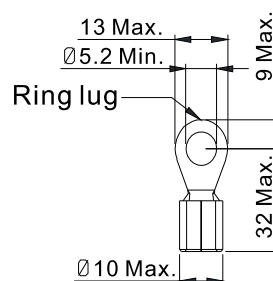

Figure 1
4. Use specified ring lug for terminal wiring. See Figure 1 and Figure 2 for ring lug specifications. For other types of wiring, use the wires that comply with local regulations.